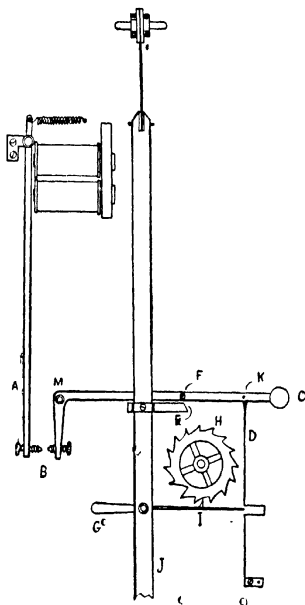

FIG. 118.—Electric Motor-pendulum.
In Fig. 118 J is a pendulum rod. E is a dead-beat impulse pallet rigidly fixed to the pendulum rod. C is the
Fig. 118 is practically the "Synchronome" system.
**Clocks driven by Electric Impulses.**—An electric master-clock actuated by a motor pendulum, like that in Fig. 118, of an ordinary regulator designed to close an electric circuit every half minute, can be made to drive any number of dials by quite a simple electric contrivance, by which a pawl draws a ratchet-wheel round one tooth at each impulse. A clock so made need only have a ratchet of one hundred and twenty teeth upon its centre arbor and the usual motion wheels to